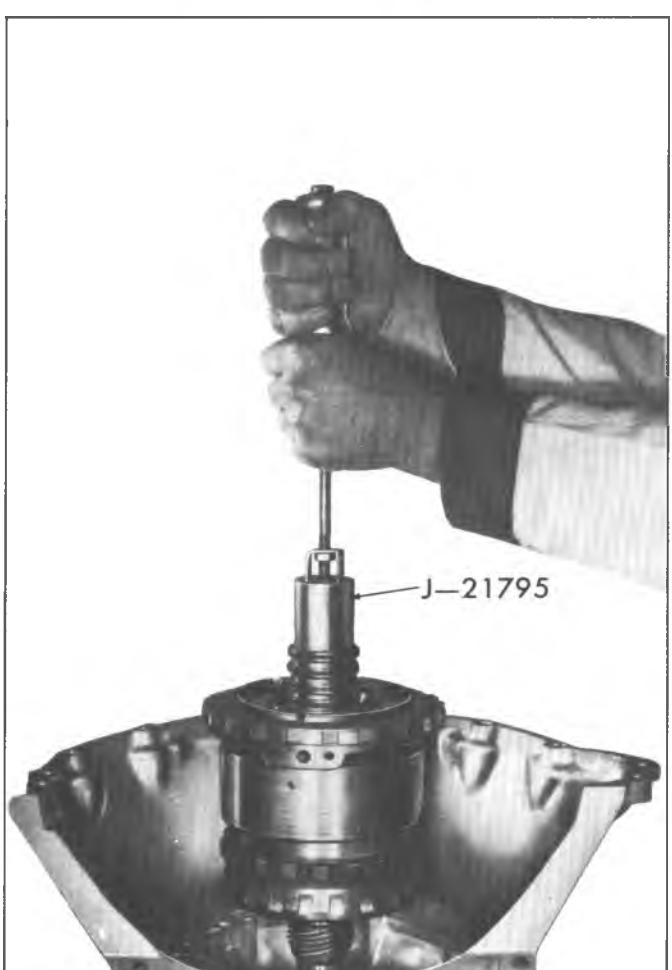

Fig. 36T--Removing Center Support and Gear Unit from Case
15. Remove entire gear unit assembly by lifting with gear assembly installing and removing Holding Tool J-21795 with J-9539 slide hammer (fig. 36T).